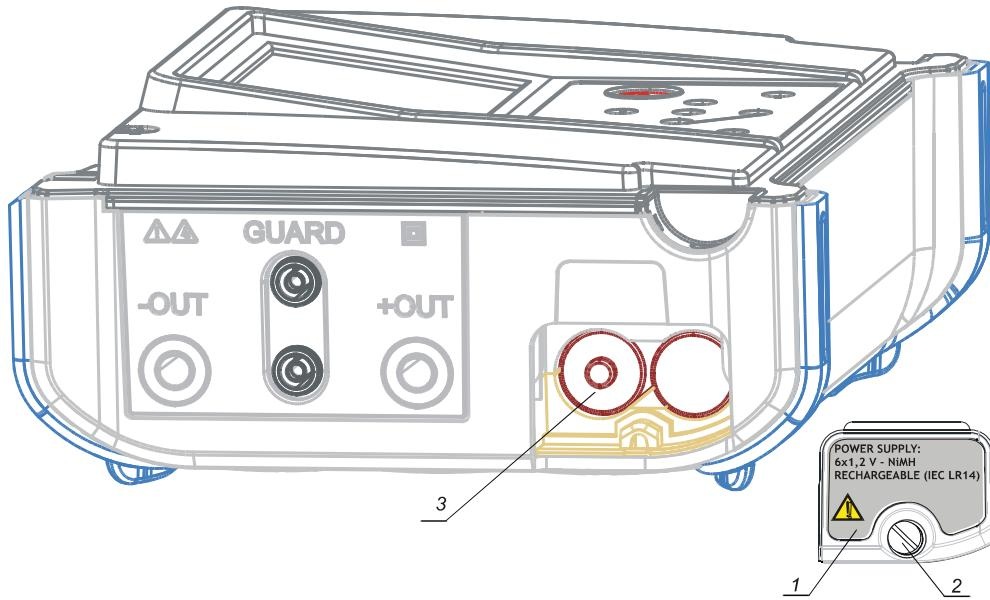

Fig. 32. Correct polarity of inserted batteries
Battery cells are stored in the bottom section of the instrument casing under the battery cover (see Fig. 32). When inserting batteries for the first time please note the following:
- Insert the batteries correctly (see Fig. 32), otherwise the test instrument will not operate!
Battery cells are stored in the bottom section of the instrument casing under the battery cover (see Fig. 32). In case the batteries become defective please note the following:
- Insert the batteries correctly (see Fig. 32), otherwise the test instrument will not operate and battery may be discharged!
Nominal power supply voltage is 7.2 V DC. Use six NiMH cells with size equivalent to IEC LR14 (dimensions: diameter = 26 mm, height = 46 mm). See the next Fig. 32 for correct polarity of the batteries.